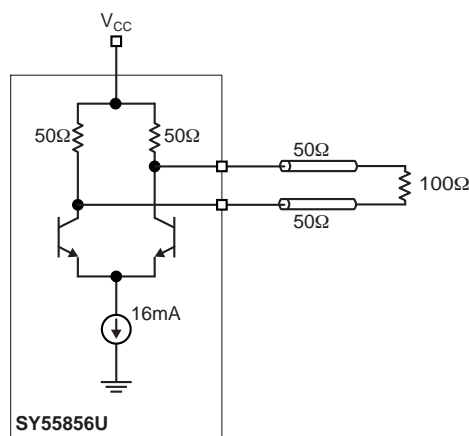

Figure 4. 50Ω Load CML Output
All CML inputs accept a CML output from any other member of this family. All CML outputs are source terminated 50Ω differential drivers as shown in Figure 4. SY55856U expects its inputs to be externally terminated.
SY55856U inputs are designed to accept a termination resistor between the true and complement inputs of a CML differential input pair, as shown in Figure 4.
**Note 7.** Tested using the 50W load, as shown in Figure 4.**Note 8.** Delay line insertion delay is the minimum input-to-output delay with select control set to S2:S0 = 0 for CLK\_OUT and S2:S0 = 7 for DATA\_OUT. This resulting delay is the inherent propagation delay.